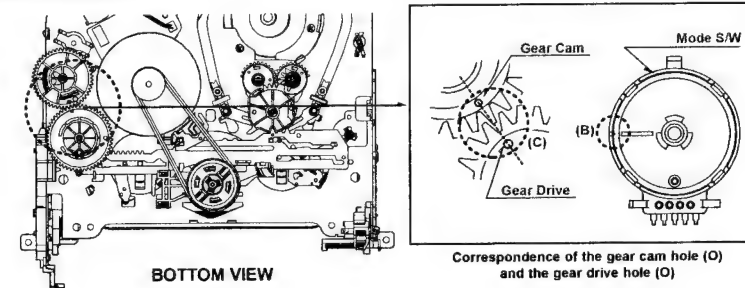
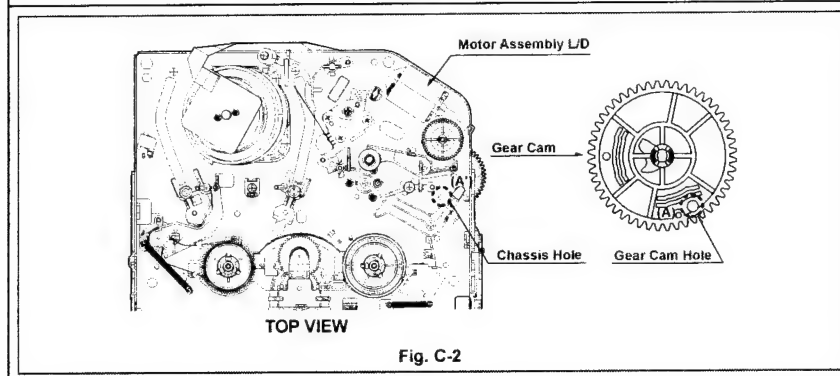

Fig. C-1
Fig. C-2
1) Turn the VCR on and take the tape out by pressing the eject button. 2) Separate both top cover and plate top, and check both the hole (A) of gear cam and the hole (A') of chassis correspond (Fig. C-2). 3) If it is done as in the paragraph 2): Turn the gear cam as in No.2) after mantling the motor assembly L/D. 4) Undo the screw fixing the deck and the main frame, and separate the deck assembly. Check both the hole (A) of gear cam and the hole (A') of chassis correspond (Fig. C-1). 5) Check the mode S/W on the main P.C. board locates at a proper position as in (B) of the Fig. (C-1). 6) Connect the deck to the main P.C. board and perform all types of test.